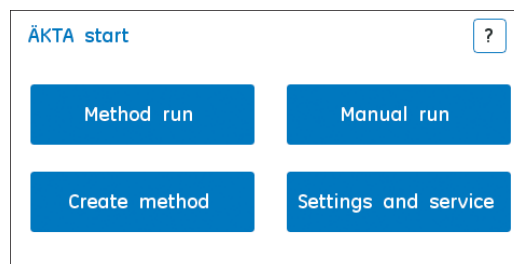

Fig 2. ÄKTA start display: Screenshot of the main menu.
- b. From ÄKTA start instrument display home screen (Fig. 2, on page 1), tap **Method run**.